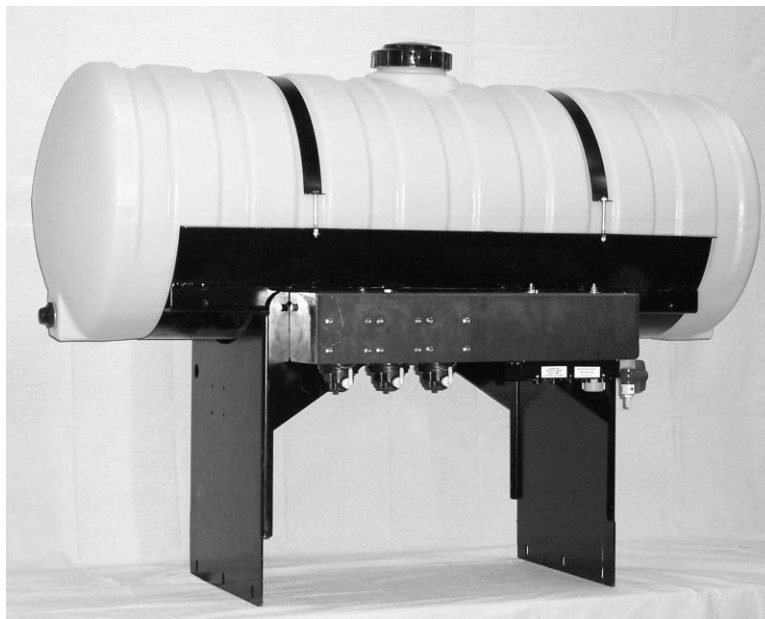

Figure 3
3. Attach the pump plate holder (001-4646D) to pump plate mounting bracket (001-4647) using four 3/8 x 3/4 flange head bolts. Figure 3.